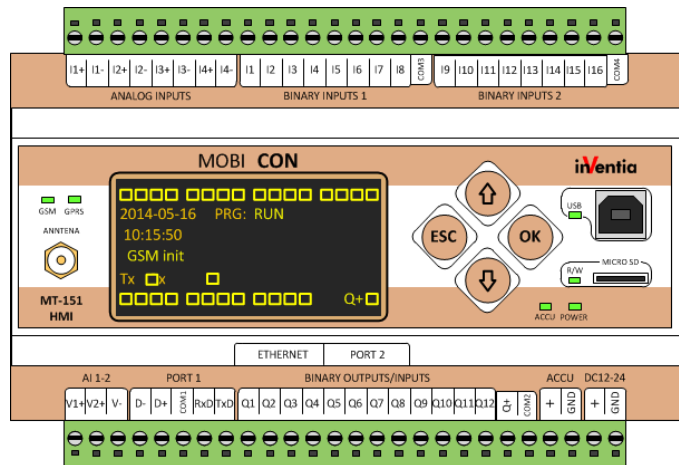

Figure 1 - Telemetry Data Logger
1.1 The Vamos System is fitted with a Telemetry Data Logger which both displays and records a number of parameters, making it straight forward to analyse and fault find on the system. (See Figure 1.